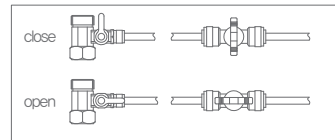

Figure 8 > Inlet Valve & Ball Valve
2. Open the inlet valve & ball valve slowly (Refer to the figure 8)